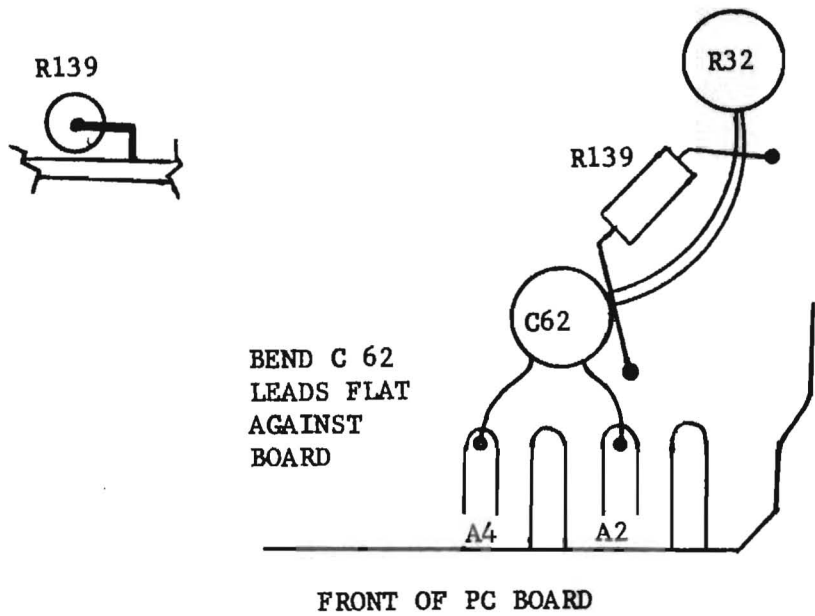

FIGURE 2
4. Install the resistor, designated R139, as indicated in figure 2. Bend the leads to make contact with the trace on the back of the board and solder. R-139 must be bent as shown to prevent accidental short circuits and to permit the board to be installed in the Recorder.